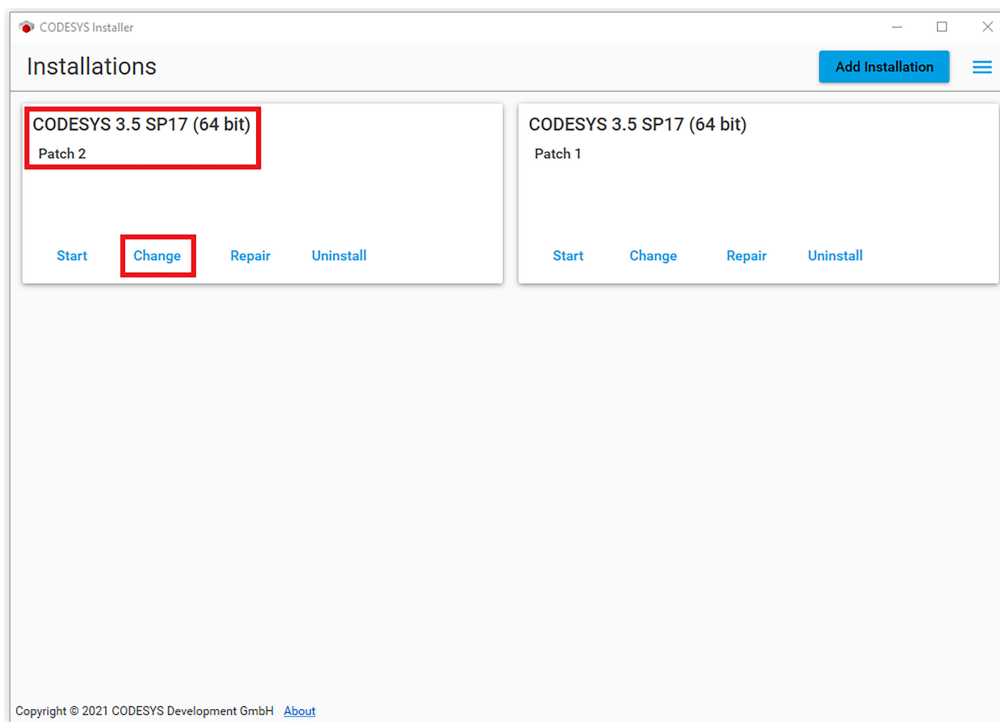

Figure 14.1: CODESYS Installer main screen. Installing a new package
- 4) All CODESYS installations present on the computer will be displayed. Choose the version of interest and click on **Change**, as shown in Figure 14.1 on page 14-2.